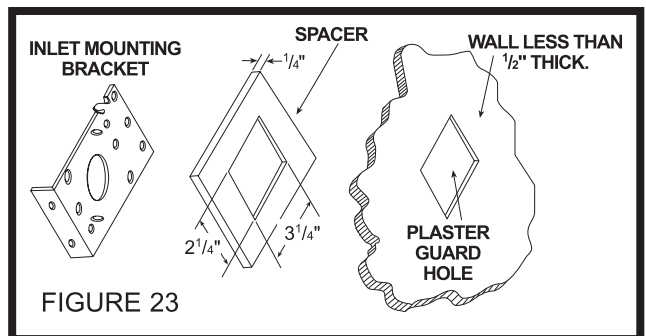

FIGURE 23
**NOTE:** When using the model CF361 and CF361F inlet bracket on walls thinner than 1/2", use a 1/4" spacer (not furnished) between the wall and the inlet bracket. See Figure 23. Spacer may be made from plywood, Masonite™, etc. Contact cement may be used to hold spacer in place during assembly. Configuration of spacer may vary depending upon installation.